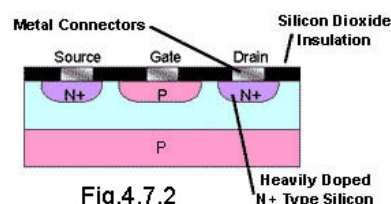

Fig.4.7.2
- Which semiconductor device is illustrated in Fig.4.7.2?